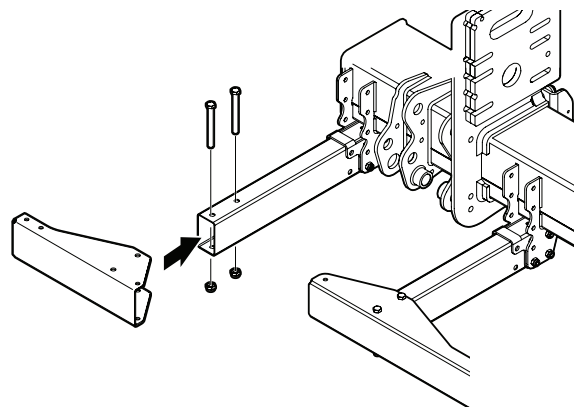

Figure 44. Installing the outer sheet-metal profile
4. Install the outer sheet-metal profiles using 2 x M12x110 bolts each. See Figure 44.